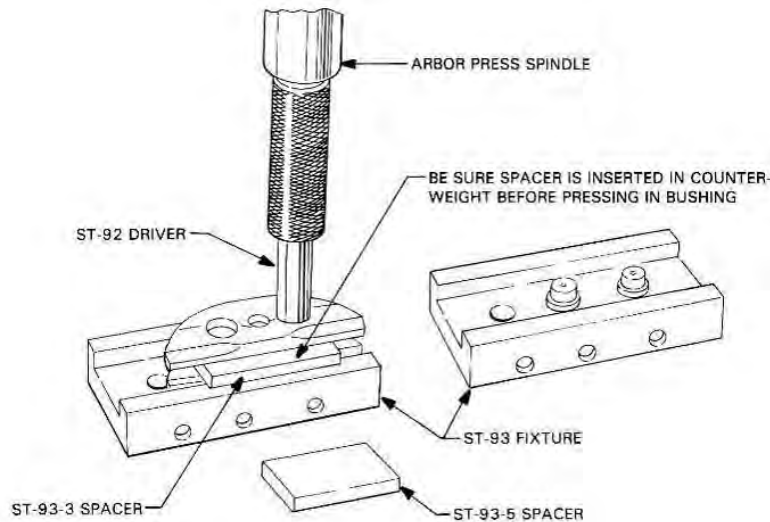

Figure 23
(b) Install the applicable Depth Control Spacer ST-93-3 or ST-93-5 (Figure 23) in the counterweight bushing bore.
- (c) Use the Arbor Press Spindle and Counterweight Bushing Driver ST-92 to press both bushings out from one side of the counterweight. Refer to Figure 23.